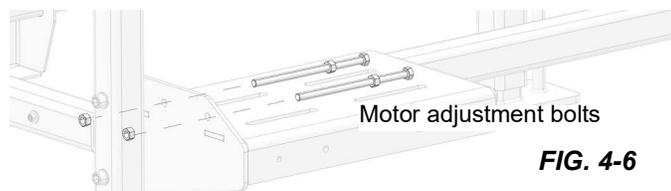

FIG. 4-6
- Screw one nut on each motor adjustment bolt before inserting into the motor mount shelf. See FIG. 4-6.
- Use the adjustment bolts to tension the chain on the sprockets as shown in FIG. 4-6.